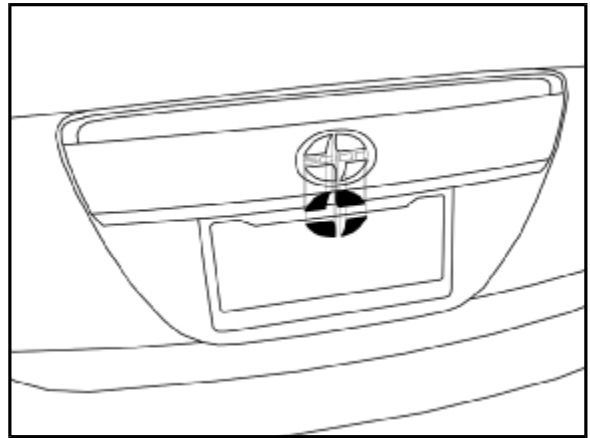

Fig. F1
- ⚠ B. Align part uniformly to edge of factory components. Edge of appliqué should be flush to edge of factory component, ±1.0mm. (Fig. F1).